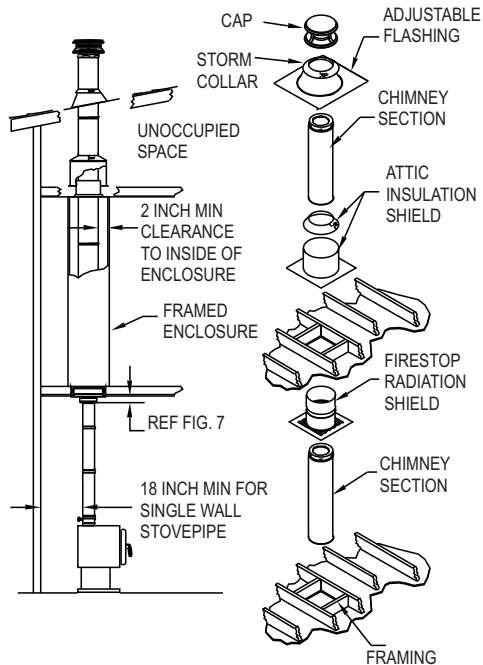
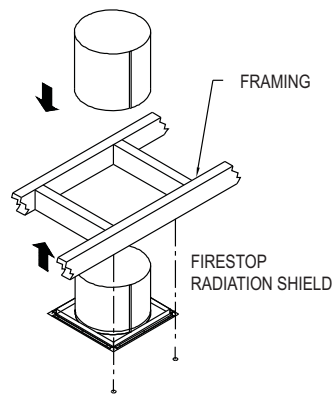

Figure 10
Figure 11
each ceiling or floor above the Support Box (Fig.10). These openings are to hold the Firestop Radiation Shield and Attic Insulation Shield. Locate each opening by dropping a plumb bob to the four corners of the opening below. Maintain the framing dimensions as specified in Table 1. **Warning: other than the framing for the Reduced Clearance Support Box, any combustible materials around the chimney must meet the minimum 2" clearance requirement.** If Elbows must be used to avoid an obstruction, refer to the Offset Elbow Installation section.
need a Firestop Radiation Shield at the 2nd floor ceiling, and at the 3rd floor ceiling, etc., including where the chimney penetrates into the attic. **Fig.10** shows a typical 2-story installation with an attic. Note: a Firestop Radiation Shield is not installed where the chimney penetrates through the roof. The Firestop Radiation Shield is installed on the underside of the ceiling/floor framing, with the cylindrical “tube” portion of the shield pointing upward. (**Fig.11**). Use a minimum of either (1) 8 penny nail or (1) #8, 1-1/2” wood screws per corner. Refer to **Table 1** for framing requirements.
B4. Slip the Attic Insulation Shield over the Chimney and Firestop Radiation Shield until the base sits squarely on the framed opening (**Fig.10, 13**). If desired, non-combustible insulation may be installed in the Attic Insulation Shield. Before installing, add a 2" thick blanket of insulation around the inside of the Attic Insulation Shield, then slip over the Chimney.